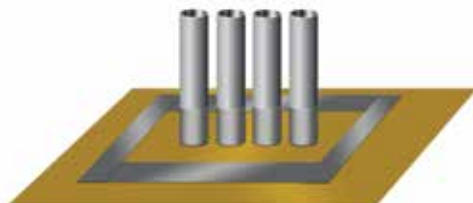
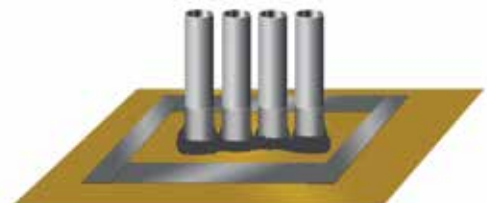

Fig. 9
Fig. 10
- E) After applying VIAFLEX Butyl Seal Tape between the patch and membrane, tape around each of the penetrations and the patch with VaporSeal™ 4" tape. (Fig. 9) For additional protection apply POUR-N-SEAL™ or an acceptable polyurethane elastomeric sealant around the penetrations. (Fig. 10)